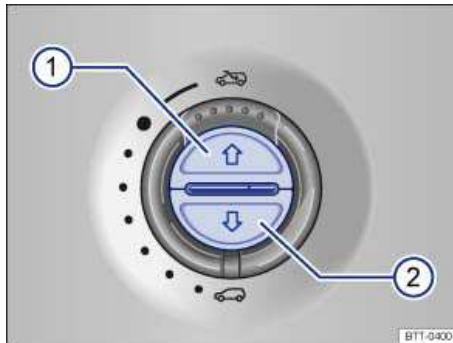

Fig. 38 In the headliner: Buttons for sunshade.
To open fully (one-touch feature):	Briefly press the ⇒ fig. 38 (1) button.
To stop the (one-touch feature):	Briefly press the ⇒ fig. 38 (1) button or the (2) button.
To set an intermediate position:	Keep the ⇒ fig. 38 (1) button or (2) button pressed until the position has been reached.
To close fully (one-touch feature):	Briefly press the ⇒ fig. 38 (2) button.
- *Sunshade*: Within 5 seconds after the pinch protection was triggered, press the ⇒ fig. 38 \(2\) switch until the sunshade is fully closed.